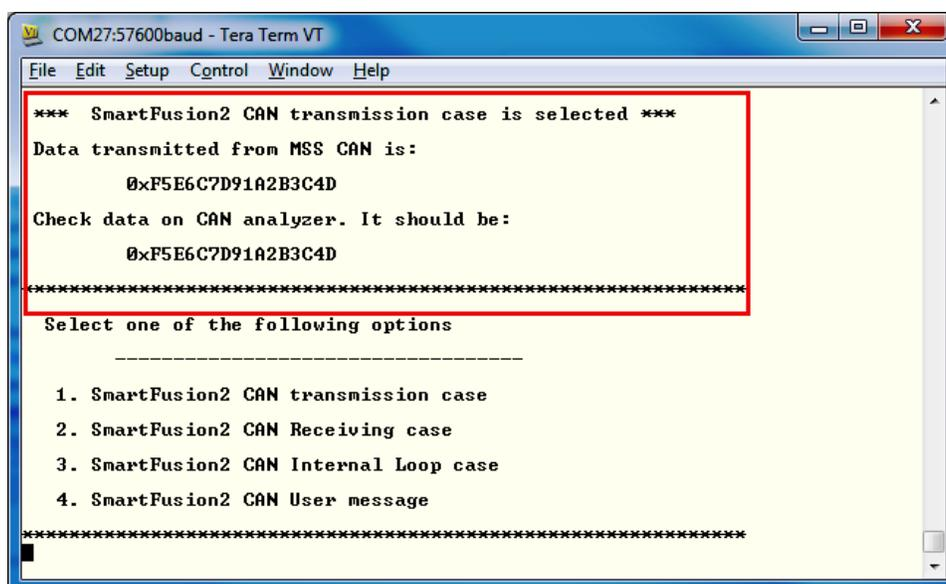

Figure 31 • SmartFusion2 CAN Transmission Case Option
- Enter **1**. The message is sent to the CAN bus and the same message is reflected in the HyperTerminal as shown in Figure 31.